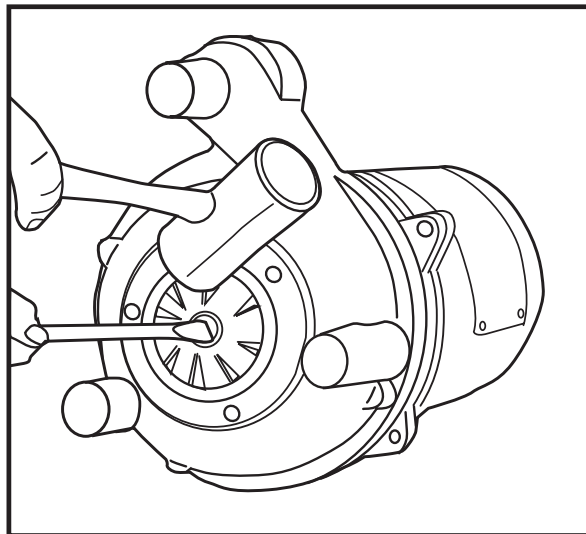

Fig. 4
5. Bump impeller vane counterclockwise with plastic hammer to loosen impeller and continue to unscrew impeller from shaft. See Figure 4.